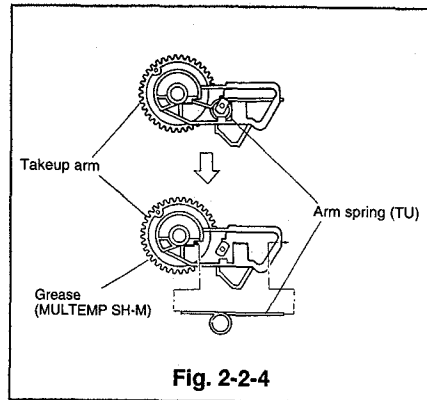

Fig. 2-2-4
- ⑦ Remove the arm spring (TU) from the takeup arm as shown in Fig. 2-2-4.
- ① Apply the grease (MULTEMP SH-M)[859D055O60] to the area of the new takeup arm shown in Fig. 2-2-4.